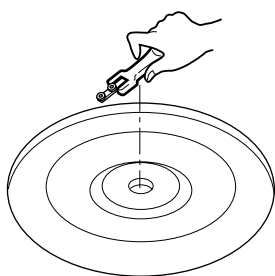

Figure 19
- (1) Remove the glass tray and rotating ring.
- (2) Remove the turntable shaft VERY CAREFULLY with a hand. (Figure 19)